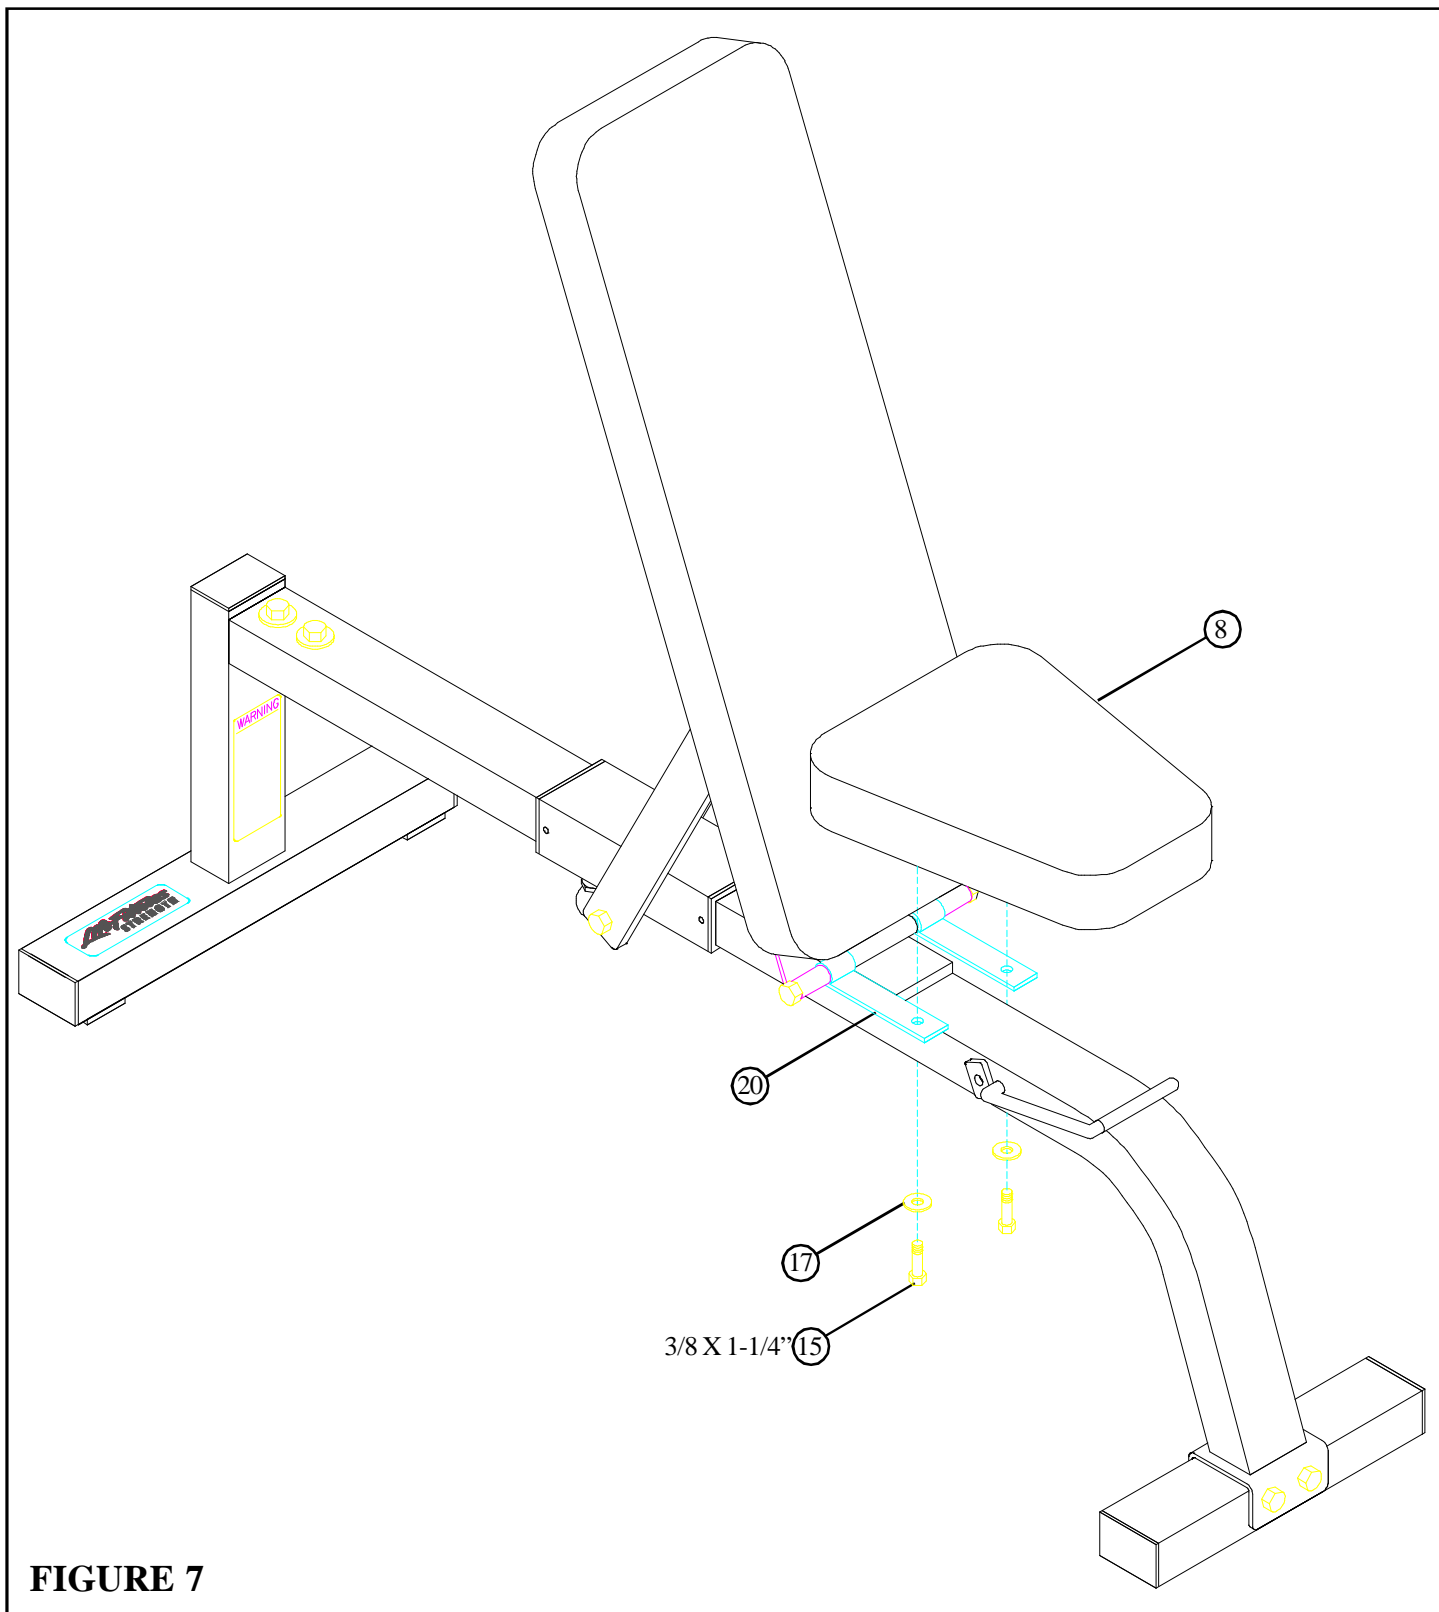

FIGURE 7
- **SECURELY** assemble the SEAT PAD (8) to the HINGE TABS (20) using two 3/8 X 1-1/4" BOLTS (15) and two 3/8" WASHERS (17) as shown in FIGURE 7.